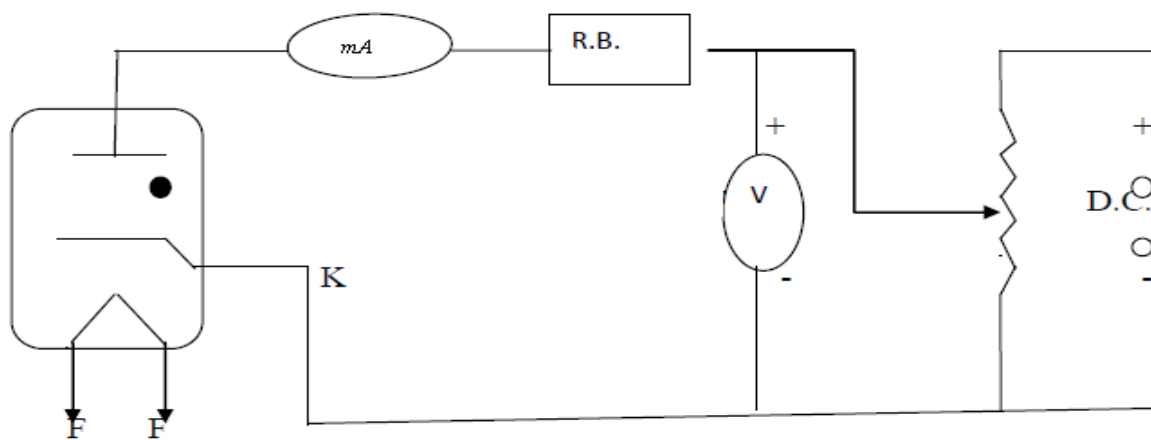

Fig. 2: Circuit diagram showing the scheme of connections.
1. Draw the diagram showing the scheme of connections as in fig. 2 and make the connections accordingly.